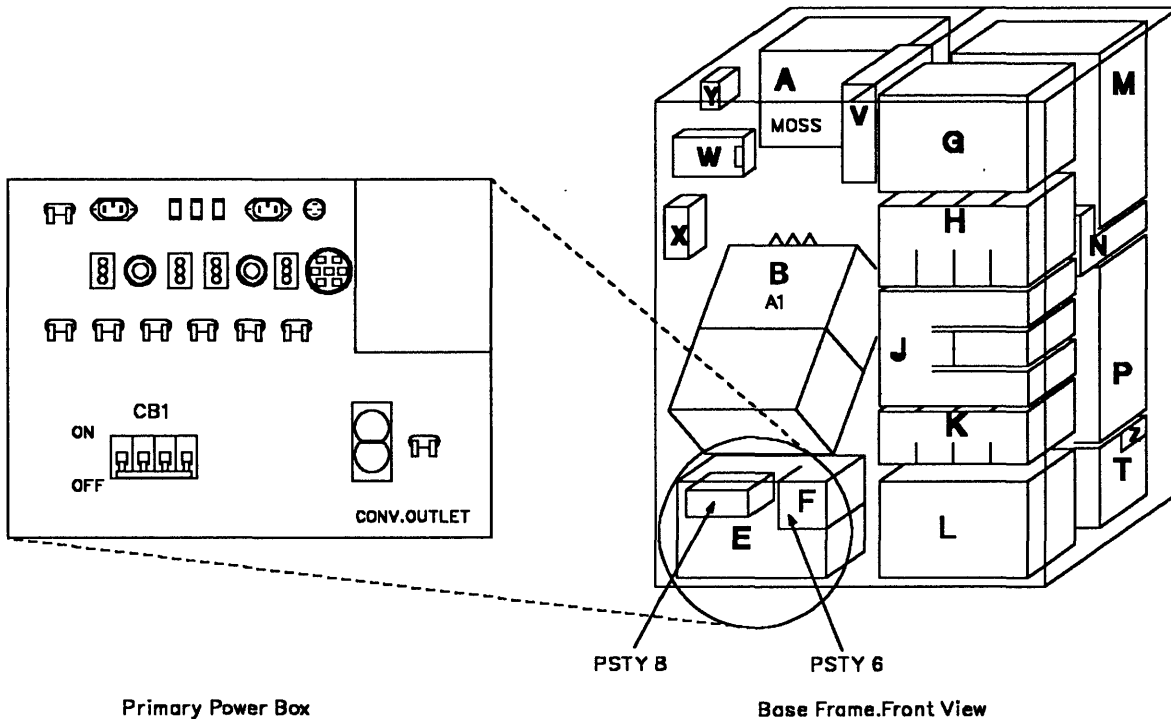

Figure 5-149. Primary Power Box in Frame 01
3. Switch CB1 OFF. Refer to Figure 5-149.